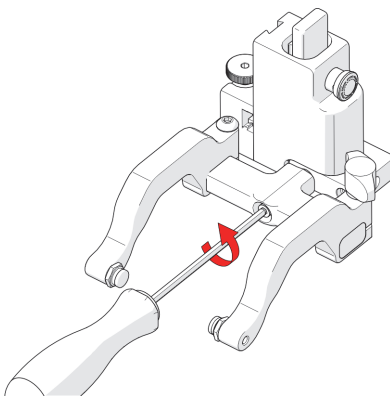

Figure 2-83 Remove yoke
1. Using the supplied 3 mm driver, unscrew the yoke (see Figure 2-83 on page 111).